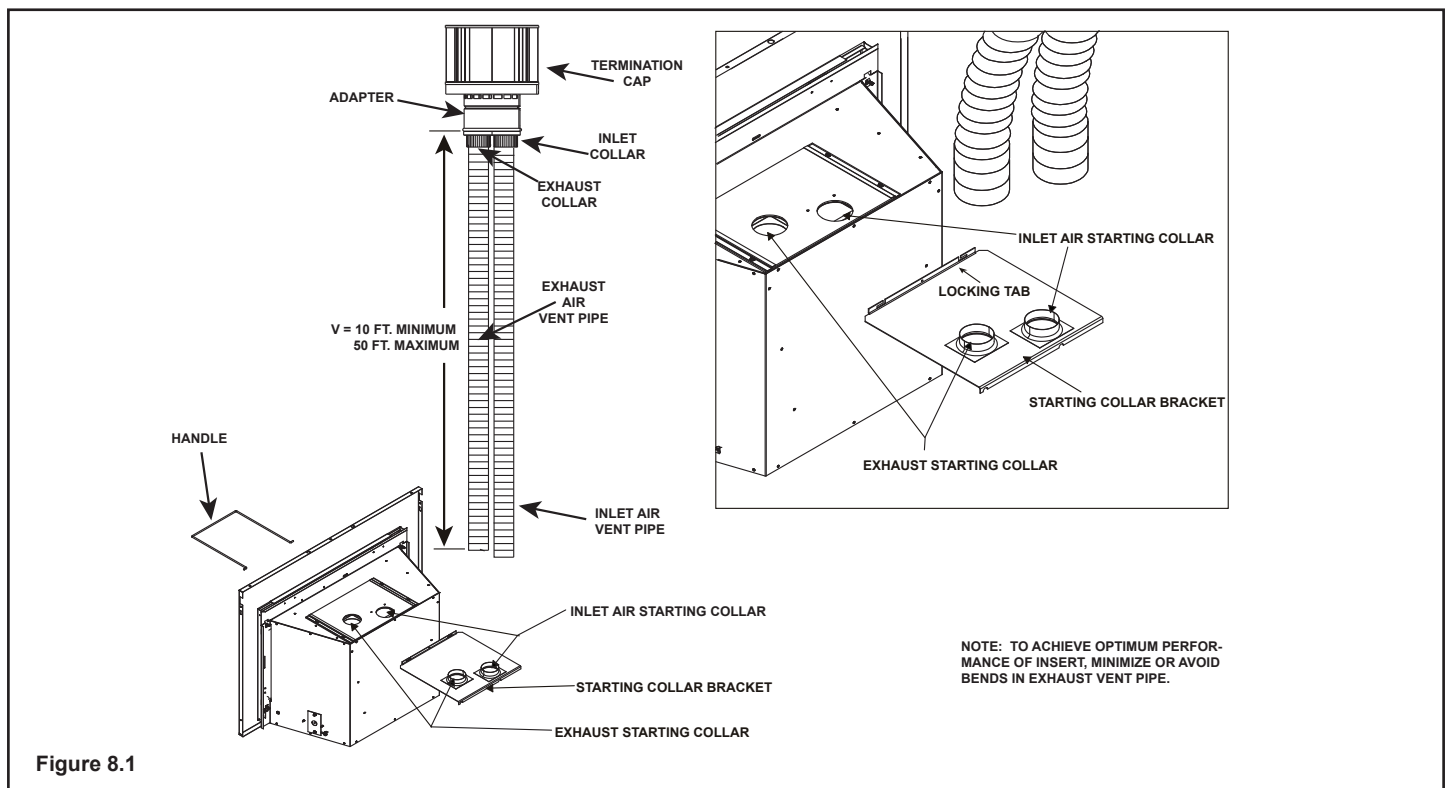

Figure 8.1
- Secure the exhaust flexible vent pipe to the exhaust starting collar on top of the appliance with three screws. See Figure 8.1.
- Use 3 screws to attach the section of inlet air vent to the inlet collar on the collar slide plate. See Figure 8.1. NOTE: The collar slide plate may be removed from appliance to aid installation.
- Secure collar slide plate to appliance by placing locking handle into position with locking tabs (see Figure 8.1) and secure with #8 screw.